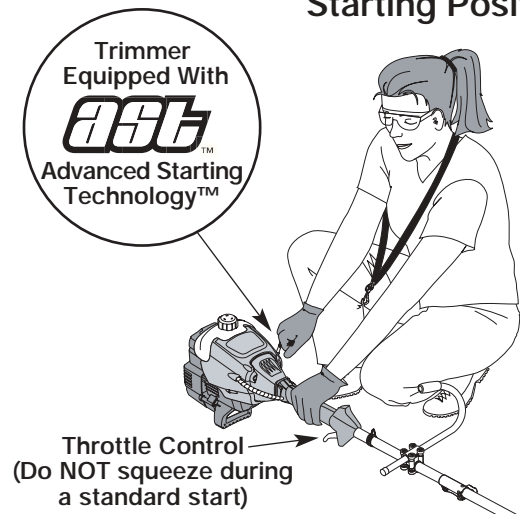

Fig. 18
**WARNING:** Avoid accidental starting. Make sure you are in the starting position when pulling the starter rope (Fig. 18). To avoid serious injury, the operator and unit must be in a stable position while starting. To avoid serious personal injury, ensure any Add-On being used is installed correctly and secure before starting the unit.
5. Crouch in the starting position and **do not squeeze the throttle control** (Fig. 18). Pull the starter rope out with a **controlled and steady motion** until the engine attempts to start. Repeat until the engine starts.